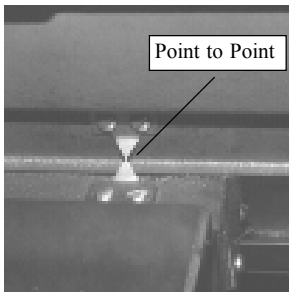

Figure 28 Point to point alignment
1. Align the carriage pointer with the pointer on the lathe housing by turning the carriage traverse hand wheel. Control lever must be in DRUM position to move carriage. It is very important to view this alignment when you are directly in front of the lathe. If you are off to the side, the pointers may appear aligned, when in actuality, they are not. See Figure 28.